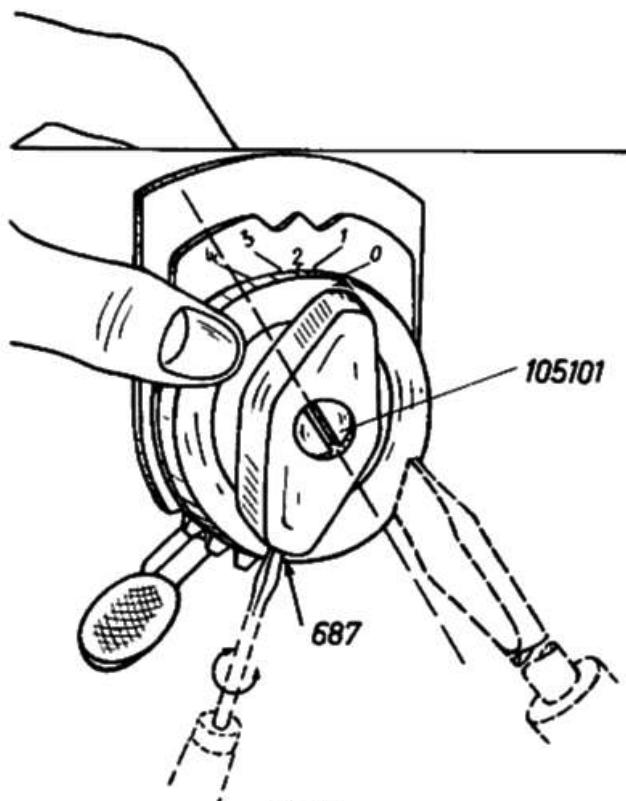

Fig.25
The needle is correctly zeroed if it stitches twice into the same hole when turning the balance wheel forward, then backward. (Let it stitch into the cardboard just lightly!) If there is a discrepancy, loosen set screw (687) of the zigzag button, which can be reached from below. Hold the button on zero and press it against the arm. Then take a large screw driver and slightly turn regulator spindle (105101) to the right or left until any sideways motion of the needle bar has ceased (Fig. 25) Move the cardboard under the presser foot after every check so that needle punctures may be clearly distinguished.